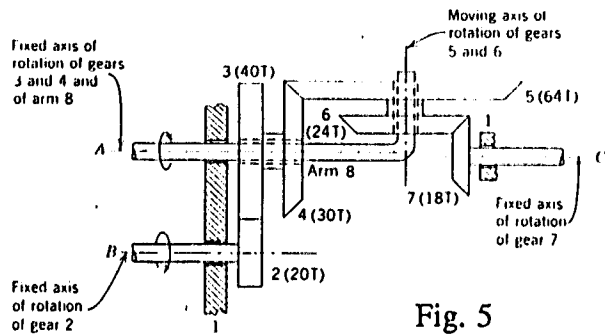

Fig. 5
3. For the gear train shown in Fig. 5, the angular velocity of shaft A is 350 rad/s in the direction shown and that of shaft B is 2000 rad/s. Please determine the angular velocity of shaft C. [8 points]